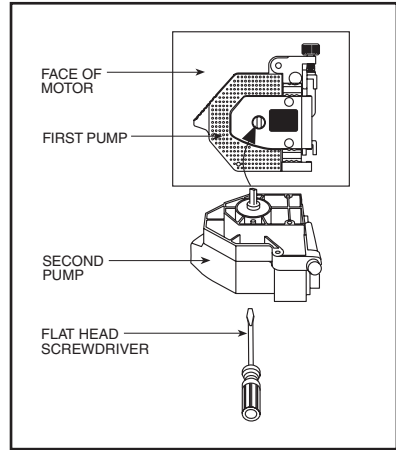

Figure 3-6. Aligning the Rotor Shaft of the Second Pump
3. Refer to Figure 3-6 and Figure B. Place the blade of the flathead screwdriver in the groove of the Rotor Shaft (5) of the second pump. Rotate the Rotor Shaft of the second pump until it's back tab slips into the groove of the Rotor Shaft of the first pump.